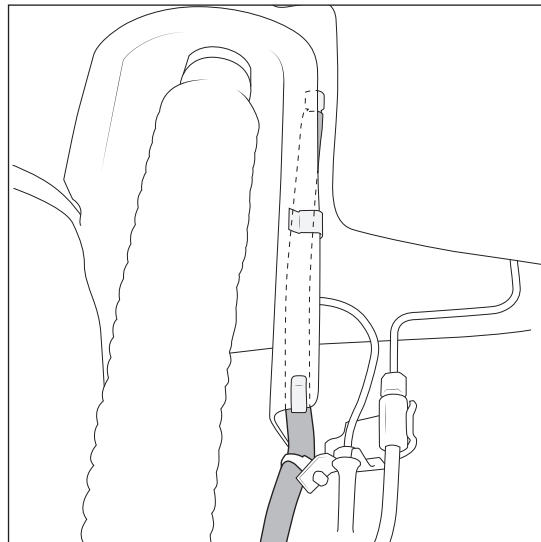

Figure 15
- Move the Axle Vent down and attach as shown (Fig. 15).